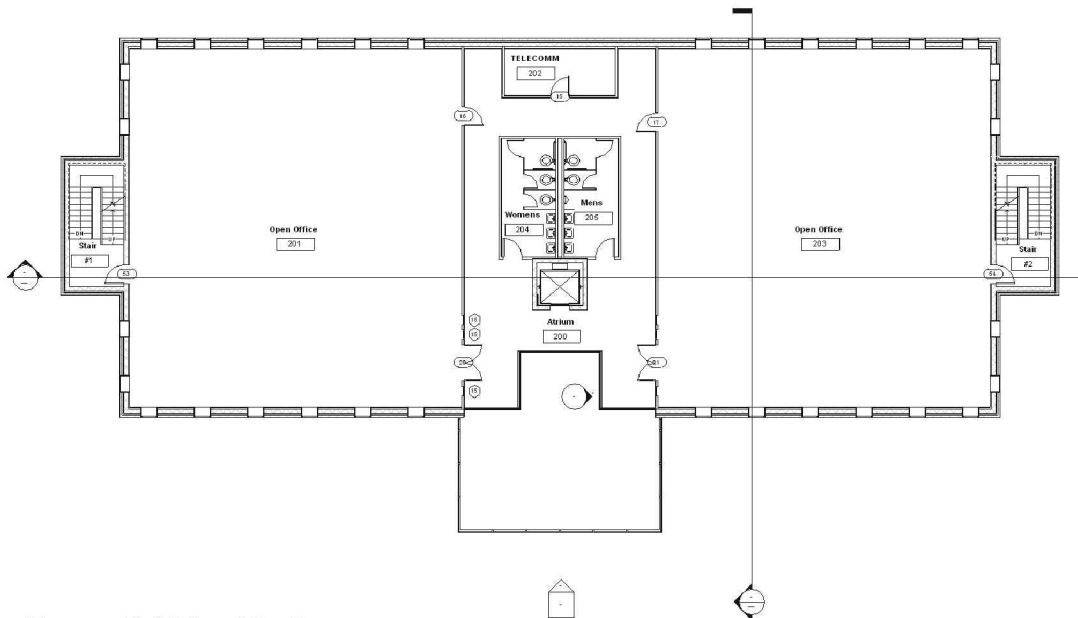
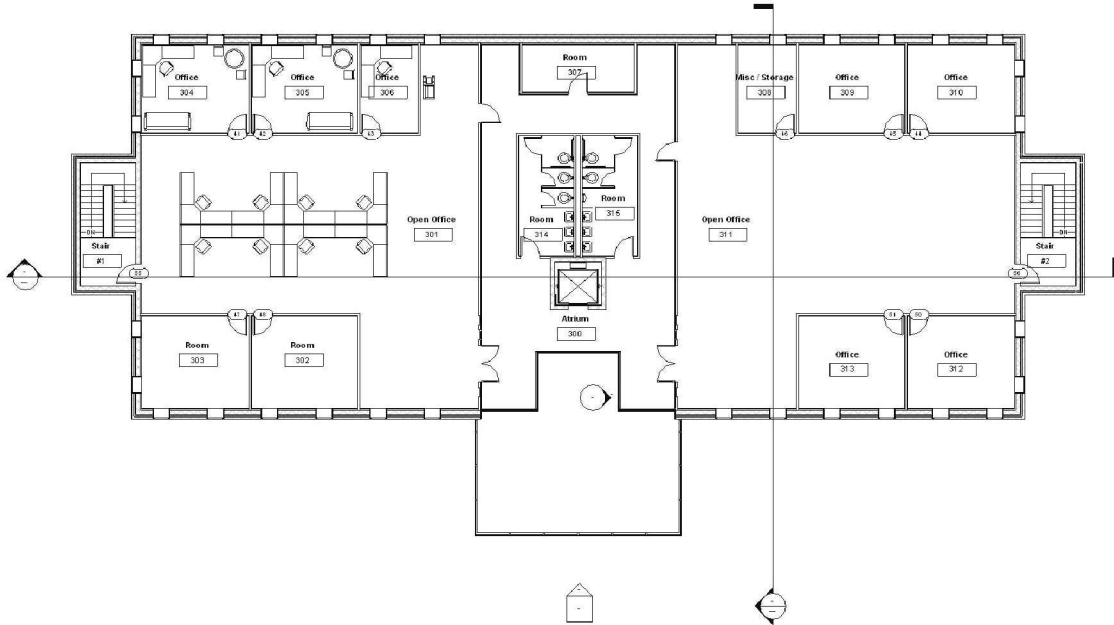

FIGURE 12-1.2 Level 2 – Room tags
FIGURE 12-1.3 Level 3 – Room tags
- Add Room/Tags to Levels 2 and 3. The numbering for Level 2 should start with 200 and Level 3 should start with 300. (For Level 2, see Figure 12-1.2; for Level 3, see Figure 12-1.3.)